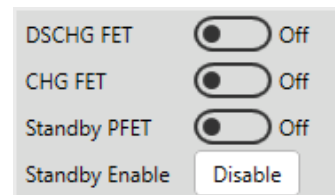

Figure 34: Direct Mode MOSFET Control
2. Configure direct mode MOSFET control (see Figure 34). First modify the control mode on the configuration tab, then the options on the control tab change accordingly.